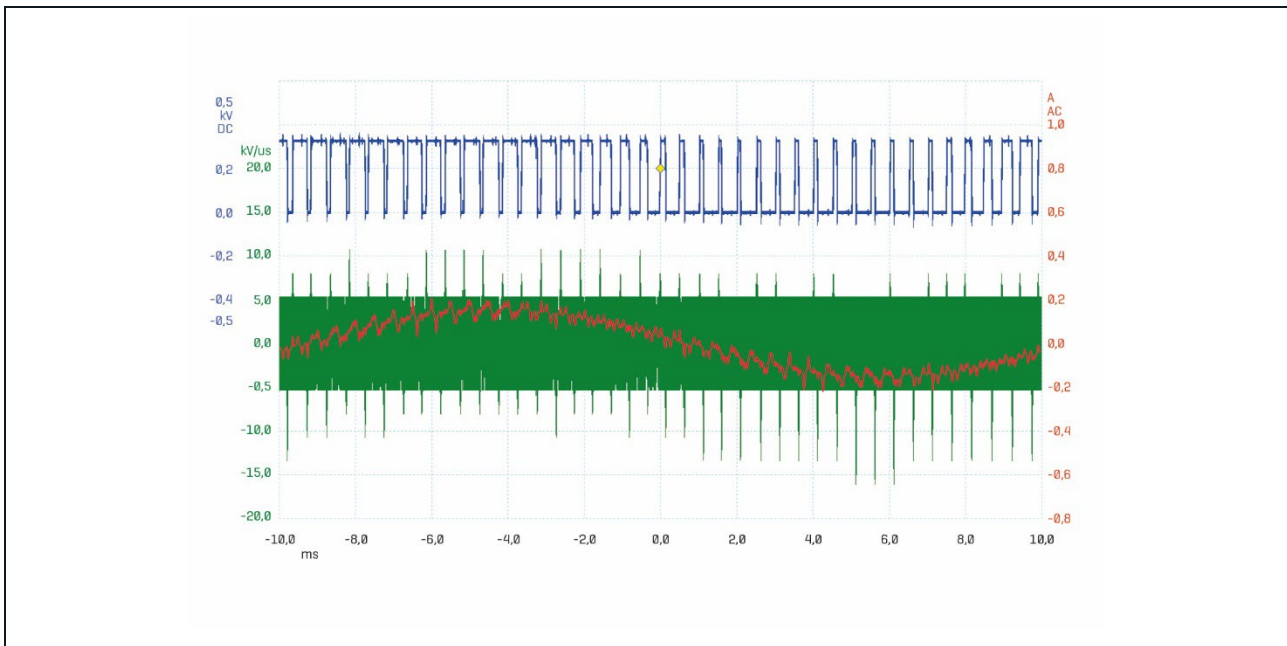

Figure 9: High noise with 8-bit / 2 ns
- b) 8-Bit AD resolution / 2 ns sampling time (Fig. 9)
Fig. 9 shows that a **low** AD resolution (8-bit) and a **short** sampling time (2 ns) result in **high** noise.
The difference in noise is clearly visible. In Fig. 9 the noise is even higher than a frequently used limit value ( $> 5\text{kV}/\mu\text{s}$ ) and would thus be unusable for this limit value measurement.